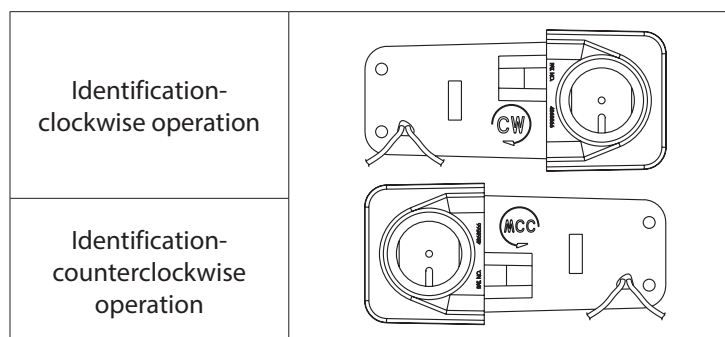

Figure 1: CW & CCW operation identification
The Badger Meter Gas Recordall® Transmitter (Gas-RT) is available in two configurations: Clockwise Operation (CW) and Counterclockwise Operation (CCW), as identified on the frame (looking toward the index), with the markings CW or CCW for both configurations. The Gas-RT should be installed so that the wire port is at the lower edge. See Figure 1.